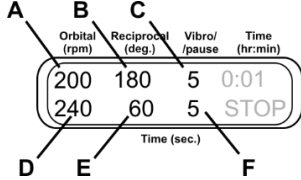
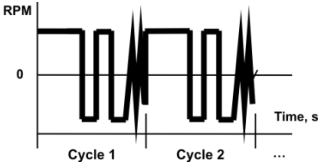

Figure 7.
Figure 8.
6.9.2. **Orbital + Reciprocal + Vibro motion.** Set the speed (fig. 7/A, 20–250 rpm) and time (fig. 7/D, 1–250 s) of Orbital motion. Set the amplitude (fig. 7/B, 0–360°) and time (fig. 7/E, 1–250 s) for Reciprocal motion. It is performed at the same speed as the Orbital motion (fig. 8). Set the amplitude (fig. 7/C, 0–5°) and time (fig. 7/F, 1–5 s) for Vibro motion.